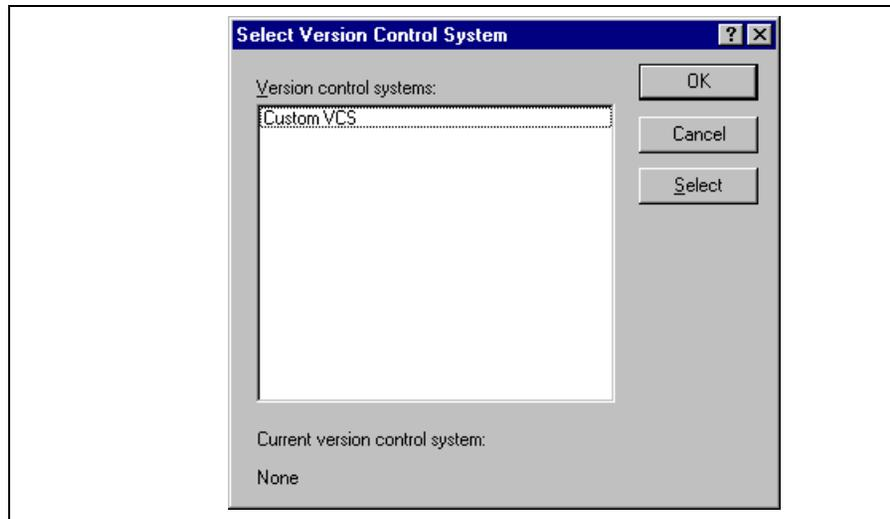

Figure 7.3: Select Version Control System Dialog
1. Select [**Version Control->Select...**]. The dialog shown in * MERGEFORMAT figure 7.3 will be displayed. This dialog lists all of the supported version control systems.